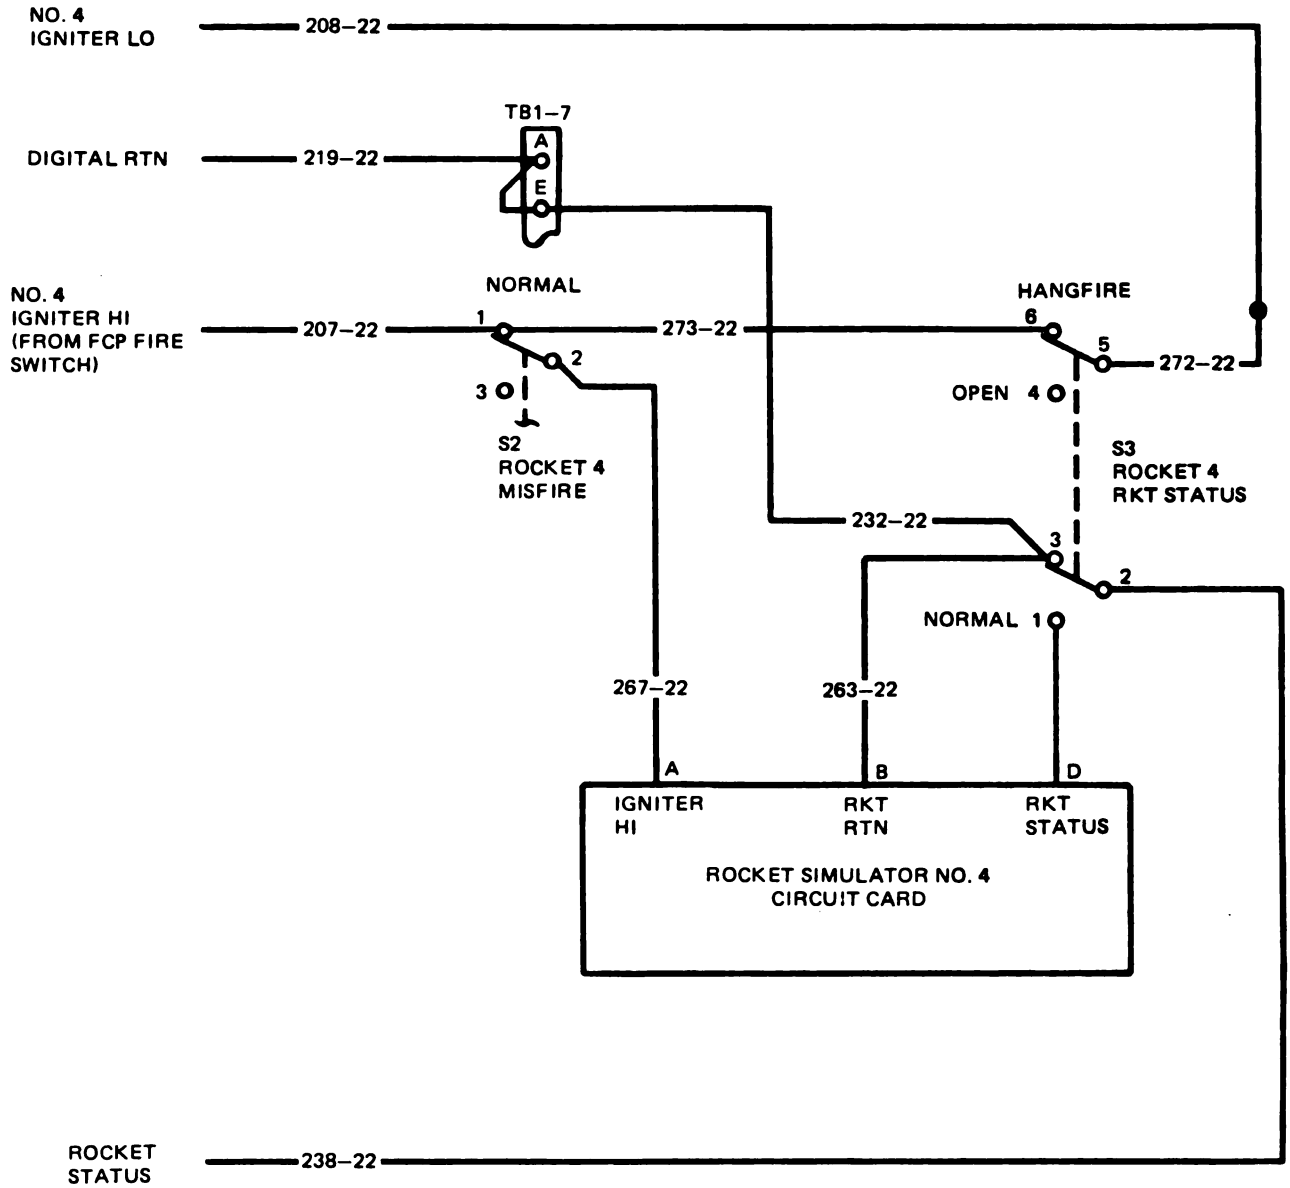

Figure 1-4. Rocket 4 Hangfire and Misfire Indication Circuit
c. **Rocket 4 RKT Status Switch.** When the ROCKET 4 RKT STATUS switch is placed in OPEN, the rocket status signal is interrupted before it reaches the circuit card simulator to simulate an empty rocket tube No. 4. Positioning the ROCKET 4 RKT STATUS switch to HANGFIRE completes the No. 4 igniter hi circuit when the FIRE switch on the FCP is actuated (figure 1-4). A path is complete through the NORMAL side of the ROCKET 4 MISFIRE switch, the HANGFIRE side of the ROCKET 4 RKT STATUS switch and back to the fire control system. This simulates a firing pulse was sent to the rocket motor. At the same time, a signal is sent through the NORMAL side of ROCKET 4 MISFIRE switch to circuit card simulator for rocket No. 4. A circuit path is complete for digital return, simulating a rocket still in tube No. 4. The fire control system in the SPLL interprets this as a HANGFIRE by sensing that a firing pulse was sent to the rocket and that a rocket is still in the tube.
d. **Rocket 4 Misfire Switch.** Positioning the ROCKET 4 MISFIRE switch to MISFIRE interrupts the igniter hi firing pulse before it reaches the simulator circuit card (figure 1-4), simulating a firing pulse sent by the fire control system but not received by the rocket motor.